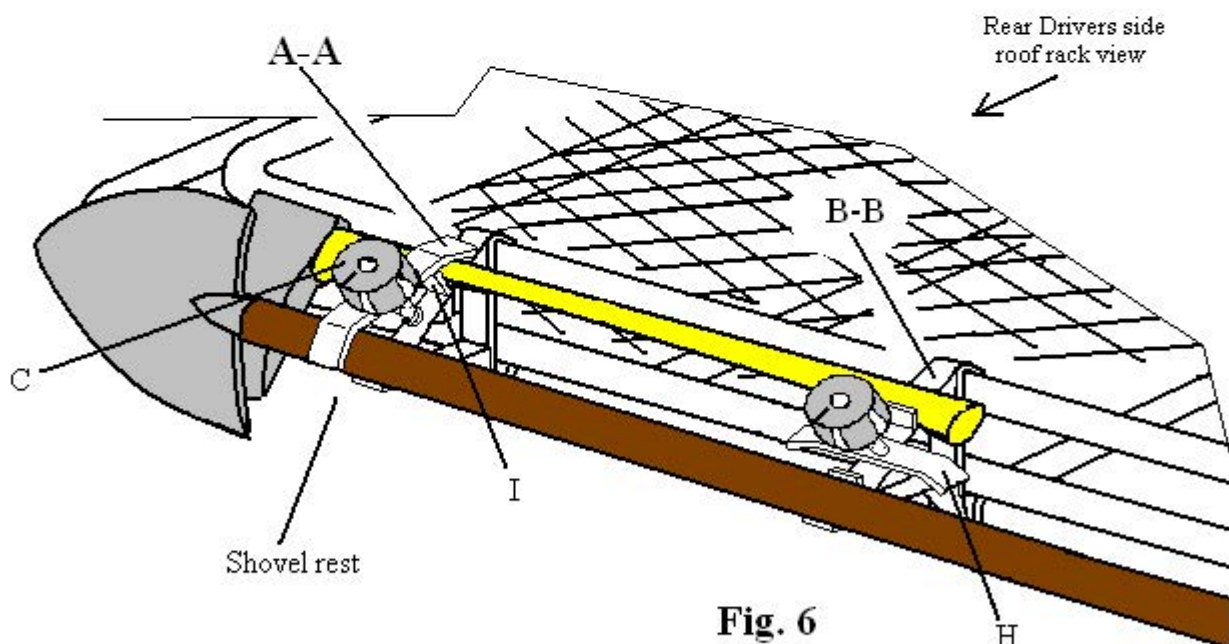

Fig. 6
- 2- Loosen both locking knobs "C" to the top end of the threaded studs and swing each pinch clamp "H" sideways as shown in Fig. 6 page 6 bracket "B-B".
- Loosen both locking knobs "C" and swing pinch clamps "H" sideways as shown in Fig 6 page 6.
- Place the Axe onto the Axe resting plates "I" with the Axe head towards the end of the roof rack or bracket "A-A" as shown in Fig 6 page 6 and hold with one hand at this time.
- Place the Shovel onto the lower shovel rests as shown in Fig 6 page 6 with the spade end of the shovel towards bracket "A-A" or the end of the roof rack covering the Axe head. With one hand holding both tools in place turn one of the pinch clamps "H" over the Axe and Shovel handles and clamp down using the locking knob "C". When one side is held in place continue to the other pinch clamp turn pinch clamp "H" vertical so that the clamp also covers the tool handles and clamp down using the locking knobs as shown in Fig 6 page 6.